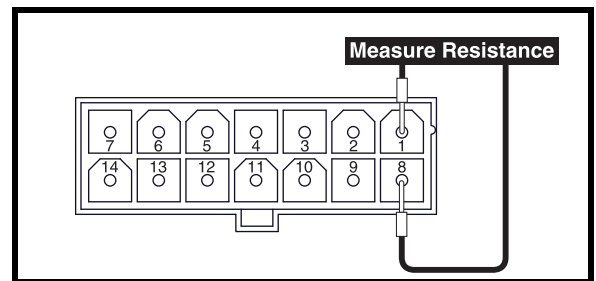

Figure 28. Connector 7a
6. Measure resistance across pin 1 and pin 8 on connector 7a. **See figure 28.**
7. Turn the speed pot (17) to the full rabbit position.